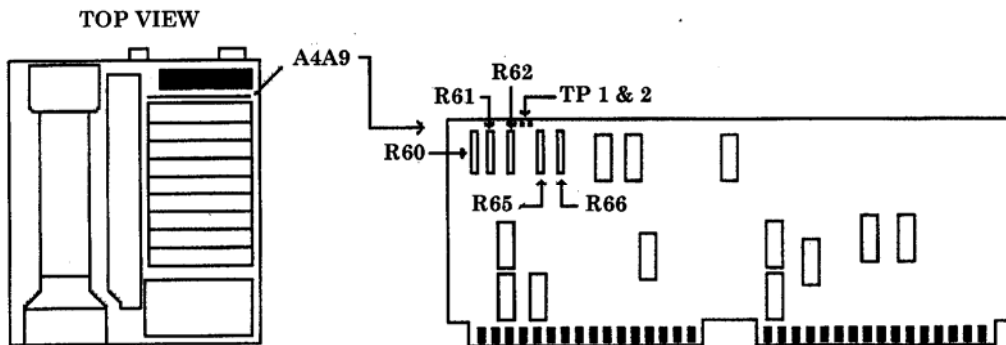

Figure 8. A4A9 board.
- (3) Adjust **DATA** knob to position trace at (or just below) reference level (top) graticule line.
- (4) Press TI keys as listed in (a) through (d) below:
- (5) Using TI **DATA** knob adjust marker down the positive going side of the displayed signal to the -3 dB point.
- (6) Adjust A4A9R60 (fig. 8) for a **MKR Δ** indication of 1.5 MHz while maintaining marker at the -3 dB point using TI **DATA** knob (R).
- (11) Adjust **DATA** knob to position trace at (or just below) reference level (top) graticule line.
- (12) Press TI keys as listed in (a) through (d) below:
- (13) Using TI **DATA** knob adjust marker down the positive going side of the displayed signal to the -3 dB point.
- (14) Adjust A4A9R61 (fig. 8) for a **MKR Δ** indication of 500 kHz while maintaining marker at the -3 dB point using TI **DATA** knob (R).
- (15) Press TI **MARKER Δ** key.
- (16) Using TI **DATA** knob, adjust marker to the -3 dB point on the negative going side of the displayed signal. There are now two markers; one on each side of the signal at the -3 dB points.
- (17) TI **MKR Δ** indication should be 1.00 ± 0.10 MHz.
- (18) Press TI keys as listed in (a) through (i) below:
- (19) Adjust **DATA** knob to position trace at (or just below) reference level (top) graticule line.
(20) Press TI keys as listed in (a) through (d) below:
(21) Adjust TI **DATA** knob to place marker down the positive going side of the displayed signal to the -3 dB point.
(22) Adjust A4A9R62 (fig. 8) for a **MKR Δ** indication of 150 kHz while maintaining marker at the -3 dB point using TI **DATA** knob (R).
(23) Press TI **MARKER Δ** key.
(24) Adjust TI **DATA** knob to set marker to the -3 dB point on the negative going side of the displayed signal. There are now two markers; one on each side of the signal at the -3 dB points.
(25) TI **MKR Δ** indication should be 300 ± 30.0 kHz.
(26) Press TI keys as listed in (a) through (i) below:
(27) Adjust **DATA** knob to position trace at (or just below) reference level (top) graticule line.
(28) Press TI keys as listed in (a) through (d) below:
(29) Adjust TI **DATA** knob to place marker down the positive going side of the displayed signal to the -3 dB point.
(30) Adjust A4A9R65 (fig. 8) for a **MKR Δ** indication of 5 kHz while maintaining marker at the -3 dB point using TI **DATA** knob (R).
(31) Press TI **MARKER Δ** key.
(32) Adjust TI **DATA** knob to set marker to the -3 dB point on the negative going side of the displayed signal. There are now two markers; one on each side of the signal at the -3 dB points.
- (33) TI **MKR Δ** indication should be 10 ± 1.0 kHz.
- (34) Press TI keys as listed in (a) through (i) below:
(35) Adjust **DATA** knob to position trace at (or just below) reference level (top) graticule line.
- (36) Press TI keys as listed in (a) through (d) below: